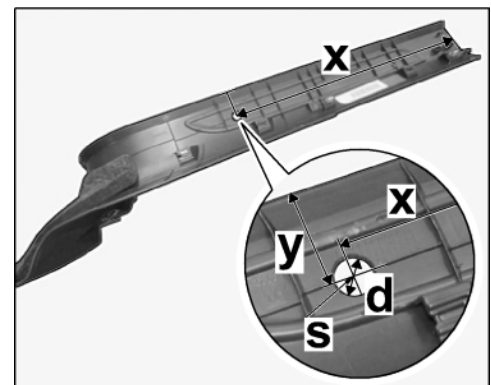

Figure 20
- 3.2 Make cable bushing (hole \varnothing 18 mm/ 0.71 in) in A-pillar trim panel (lower) on the left/right. ⇒ *Figure 20*
- 3.2.1 Mark the intersection point (⇒ *Figure 20-S*) with dimensions **x** and **y** on the underside of the A-pillar trim panel (lower) on the left/right.